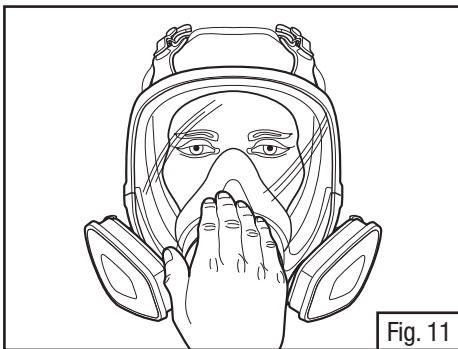

Fig. 11
2. If the facepiece bulges slightly and no air leaks are detected between the face and the facepiece, a proper seal has been obtained (Fig. 11).